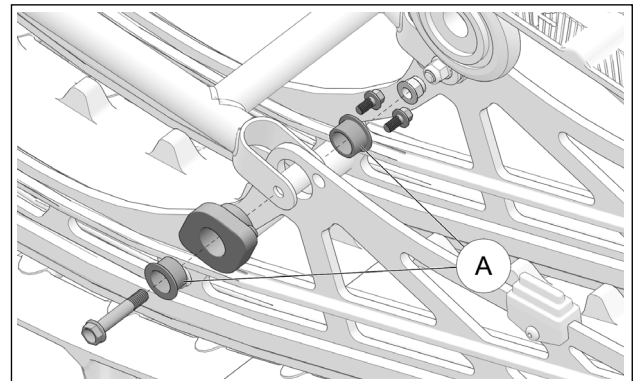
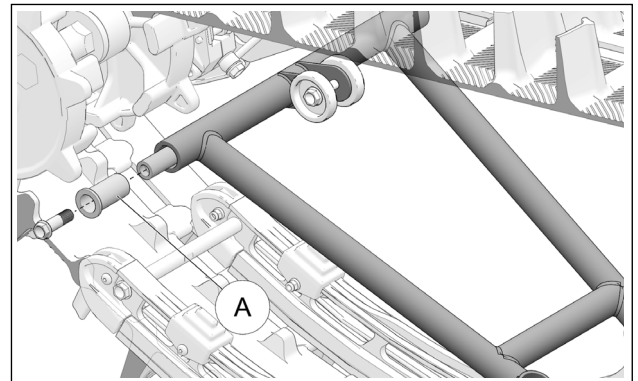
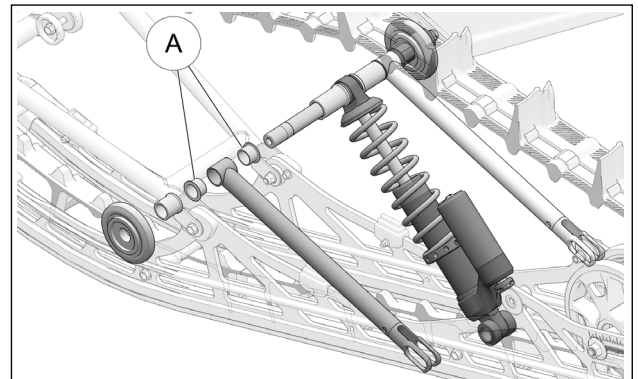

Figure 57
Figure 58
Figure 59
Verify play and extent of wear on the suspension's nylon bushings (A). If there is abnormal play in the bushings, replace them. See Figure 57, Figure 58 and Figure 59.